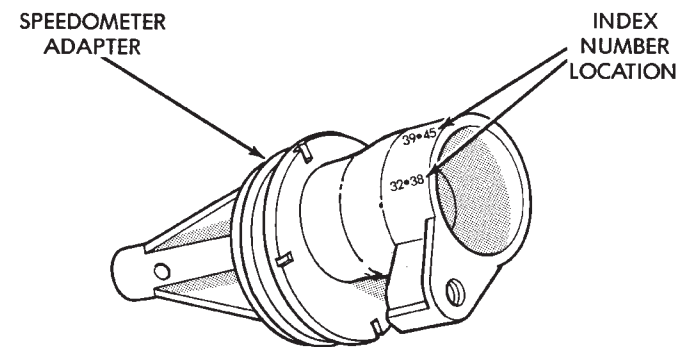

Fig. 17 Location Of Index Numbers On Speedometer Adapter (Unit Style Sensor)
- (1) Thoroughly clean adapter flange and adapter mounting surface in housing. Surfaces must be clean for proper adapter alignment and speedometer operation.
- (2) Install new O-rings on speed sensor and speedometer adapter if necessary (Fig. 17).
- (3) Lubricate sensor and adapter O-rings with transmission fluid.
- (4) Install vehicle speed sensor in speedometer adapter. Tighten sensor attaching screw to 2-3 N•m (15-27 in. lbs.) torque.
- (5) Install speedometer pinion in adapter.
- (6) Count number of teeth on speedometer pinion. Do this before installing assembly in housing. Then lubricate pinion teeth with transmission fluid.
- (7) Note index numbers on adapter body (Fig. 17). These numbers will correspond to number of teeth on pinion.